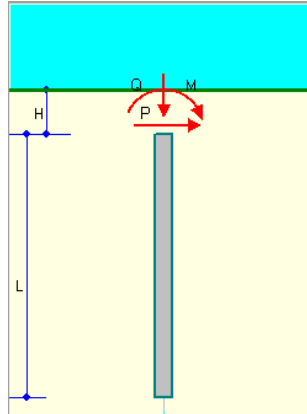

Figure 4-3. Pile Profile with $H < 0$
- 1 Pile Length (L)** The total length of the pile, including above and below ground. Zp is called pile depth measured from pile top. Zs is called soil depth measured from ground surface. For batter pile, L is projected length in vertical direction. The actual pile length will be longer than L (See Item 4 Batter Angle).
- 2. Top Height (H)** The distance from the top of the pile to the ground surface. A negative value indicates the pile is buried below the ground surface (see Figure 4-3). The sliding bar can also be used to select the desirable elevation.
- $H < 0$ Pile top under ground (Figure 4-3)